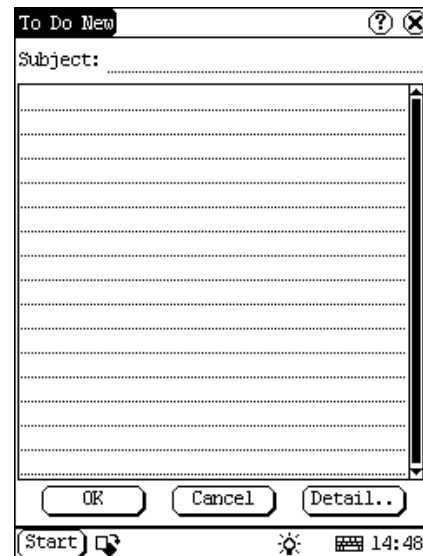

Figure 4-24
- 1) In the To Do interface, click [New] button to open the To Do New interface. See Figure 4-24.